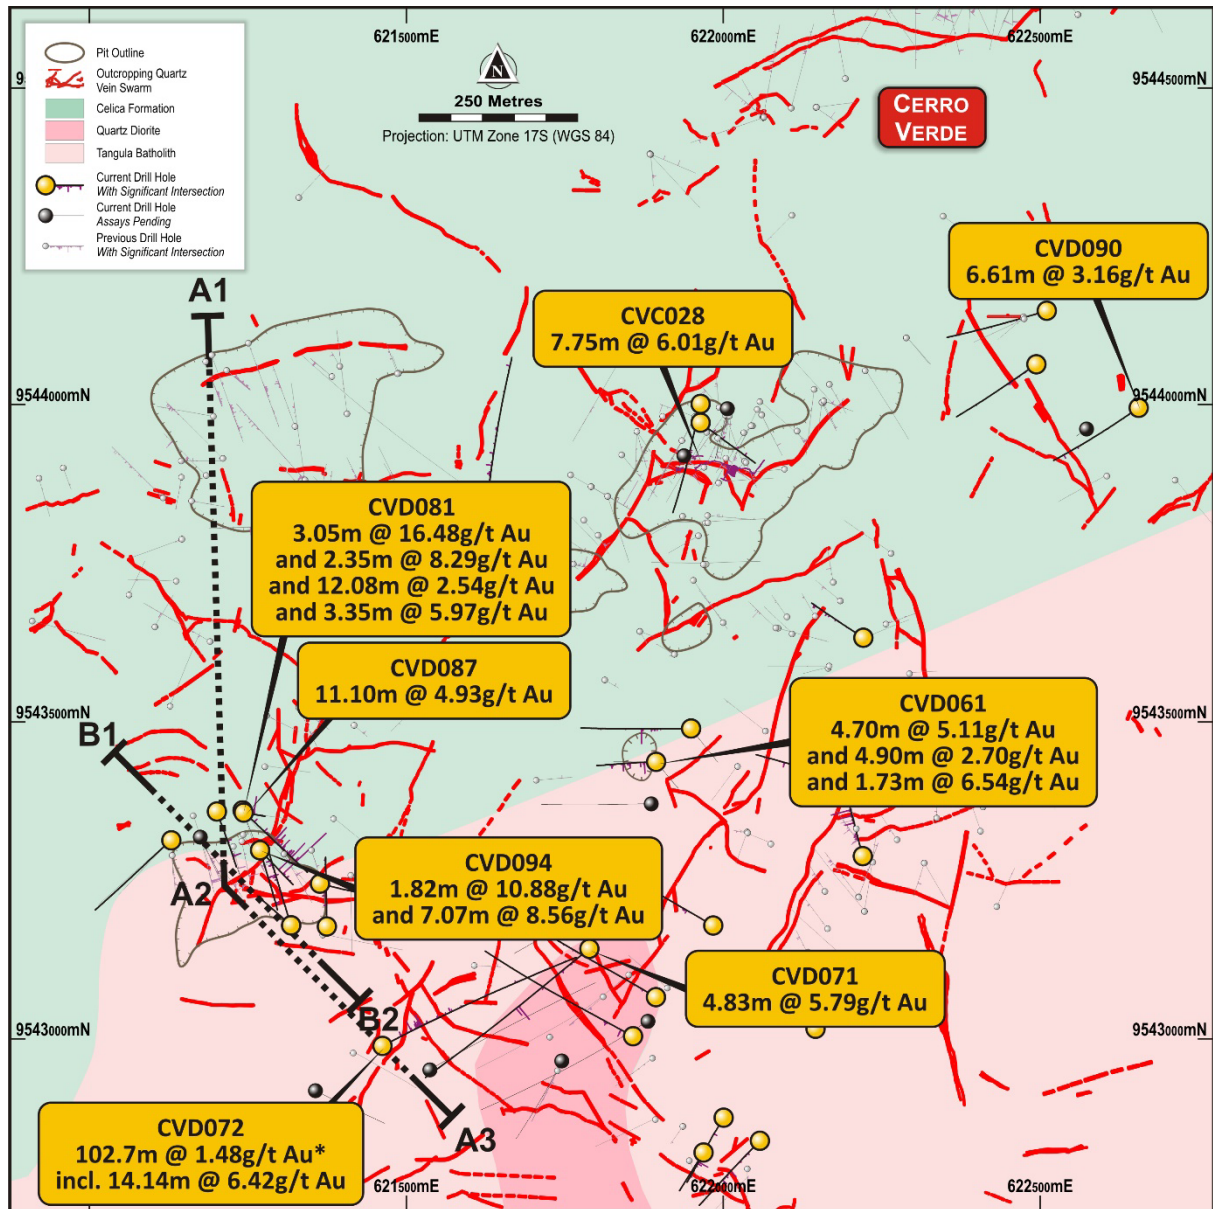

Figure 2: Cerro Verde prospect drill collar location with better reported intercepts on diagrammatic geology interpretation.
- 43.06m @ 2.56g/t gold with 6.95g/t silver was intersected from 72.82m in drill hole CVD072, previously reported with partial assay results (refer to ASX release dated 17 December 2021) Veins in the mineralized corridor above CVD072 include the Estrella, La Herradura, La Colorado and Clavo vein sets trending from northwest to northeast in orientation. The CVD072 intersects multiple veins which persist above and below the 43.06m at 2.56g/t Au, and an additional 12m of sampling proximal to this interval have been recently received, amending a broader intercept previously reported at a 0.3g/t Au cut-off to 102.7m @ 1.48g/t gold from 46.5m depth (refer to Appendix A, Figures 2 and 3).
Figure 3: Fence Section across the 1.6km wide Cerro Verde Prospect spanning across two zones of previous trial mining (at the Esperanza-Venado pits and Comanche-Brecha pits) and extending south to recent intercepts at CVD072. (Refer to Figure 2 for section location)
- 6.37m @ 1.53g/t gold and 9.94m @ 1.42g/t gold intersected from 110.33m and 133.42m depth respectively among multiple other reported intercepts in hole CVD093 (Refer to Appendix A and Figures 2 & 5) highlight a widening of the mineralised corridor identified as the Comanche-Brecha zone.
Figure 5: Comanche-Brecha Vein Zone cross section on extension to mineralisation west of Comanche Brecha trial mining pits (refer to Figure 2 for section location).